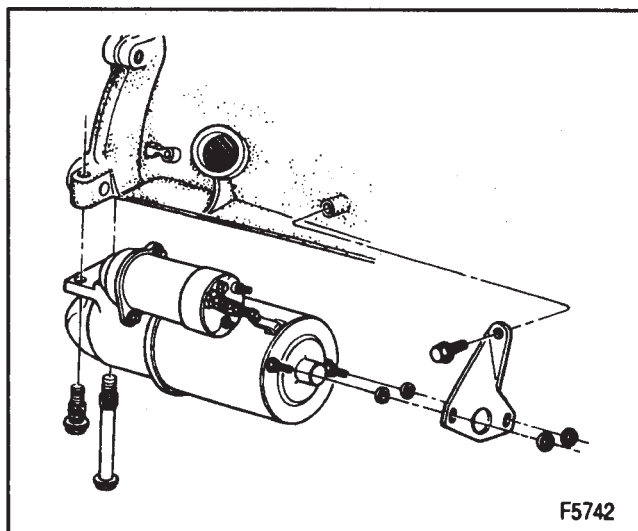

Figure 9—Starter Motor Mounting on the 2.5L Engine
- 2. Brush end mounting bracket on the 2.5L engine starter motor (figure 9).